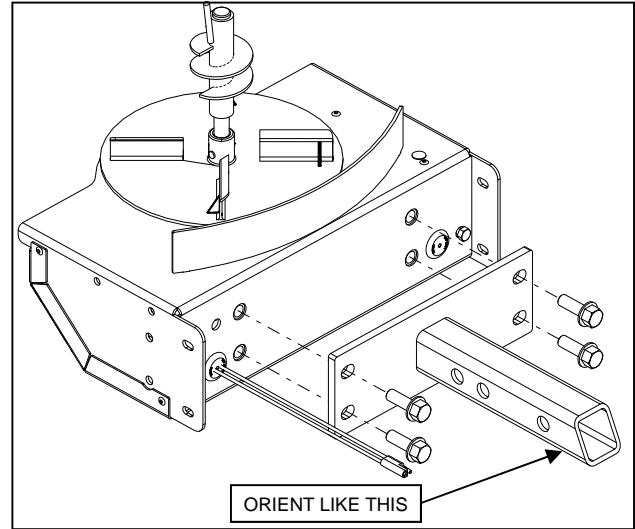

Fig 1.1
- 1.1 Place the drive assembly on a flat level surface. Attach the receiver mount to the drive assembly as shown in figure 1.1 using four $1/2"$ x $1-1/2"$ cap screws. Tighten the fasteners according to torque chart.